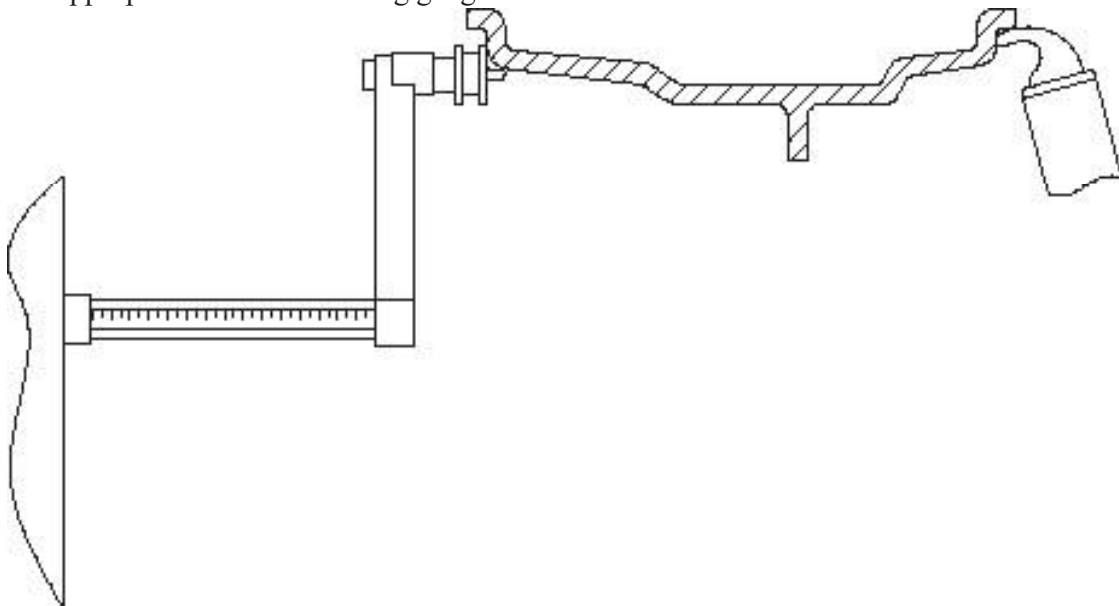

Figure F3.6 - Automatic data acquisition in the STD, ALU1,2,3,4,5 programs
2. Extract the Distance/Diameter sensor and place it on the rim as shown in Figure F3.6.